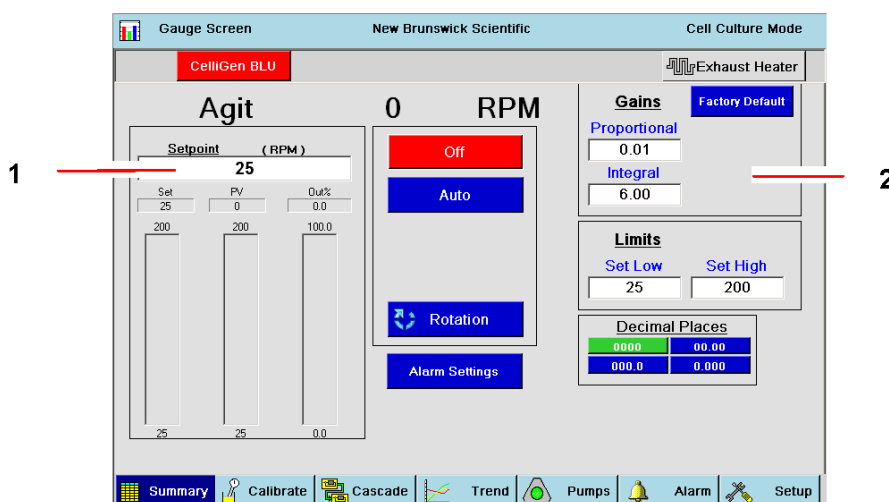

Fig. 37: Sample GAUGE Screen
2. In the loop GAUGE screen (see Fig. 37 on p. 51), press inside the Setpoint box to open the touchpad.